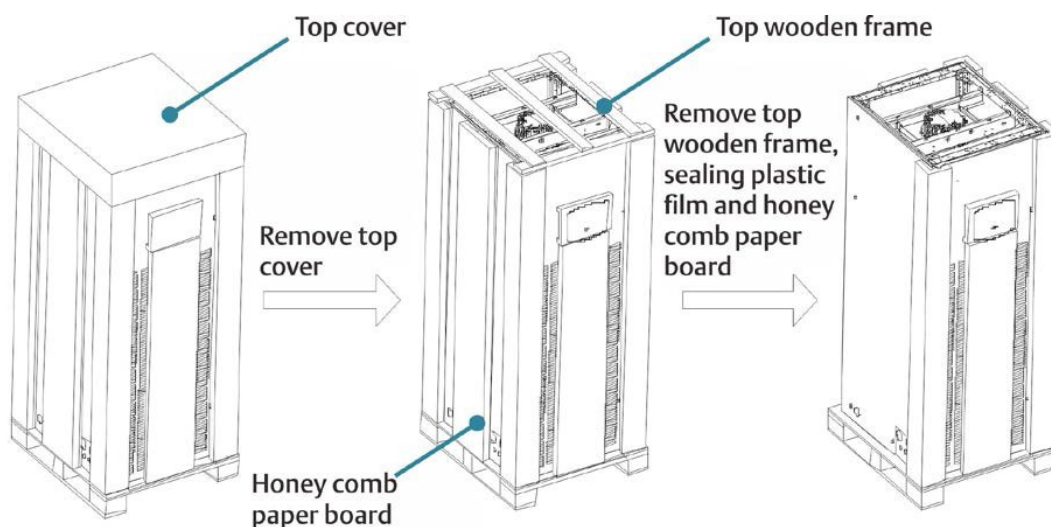

Figure 2-3 Unpacking the system
- Remove the top cover and tangled stretch film before removing the honeycomb board as shown in Figure 2-3: